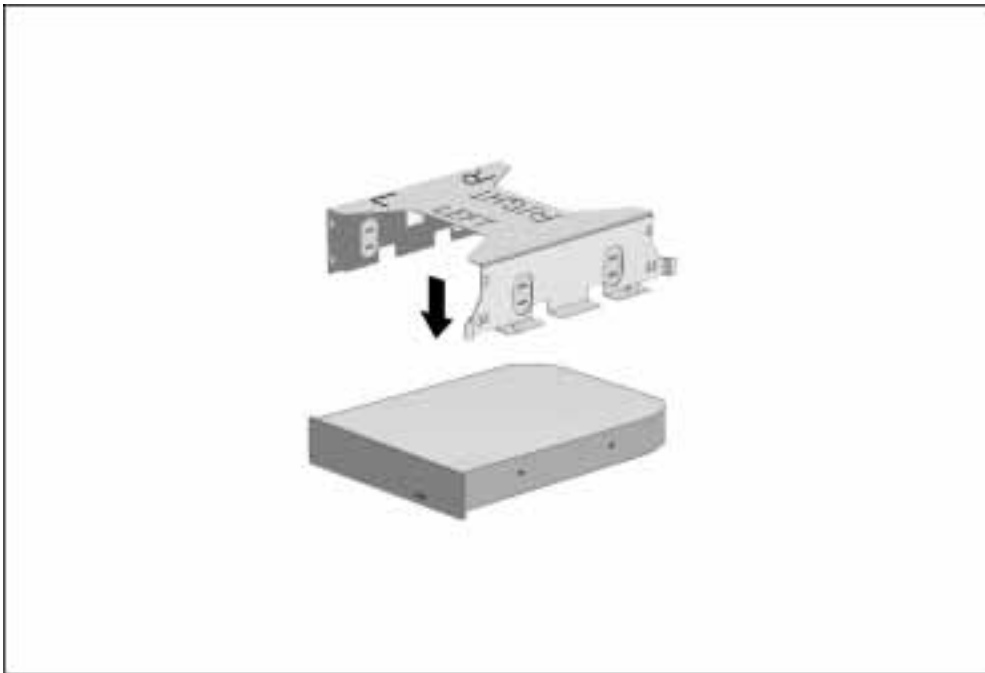

Figure 5-18. *Aligning the Half-Height Drive with the Drive Cage*
5. Place the drive cage over the half-height drive. Align the front of the drive with the tab on the front of the drive cage (Figure 5-18).